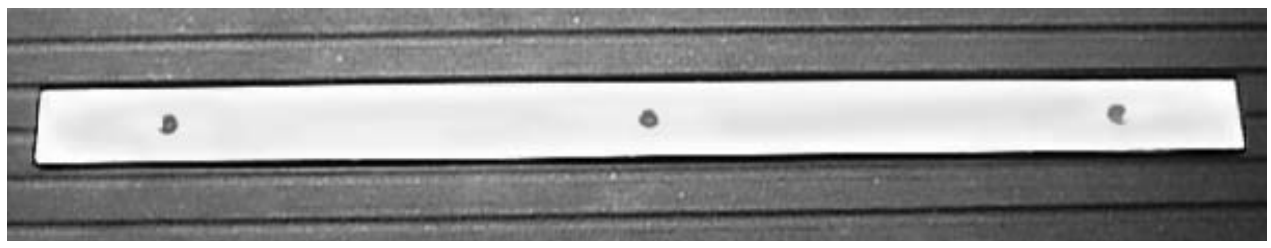
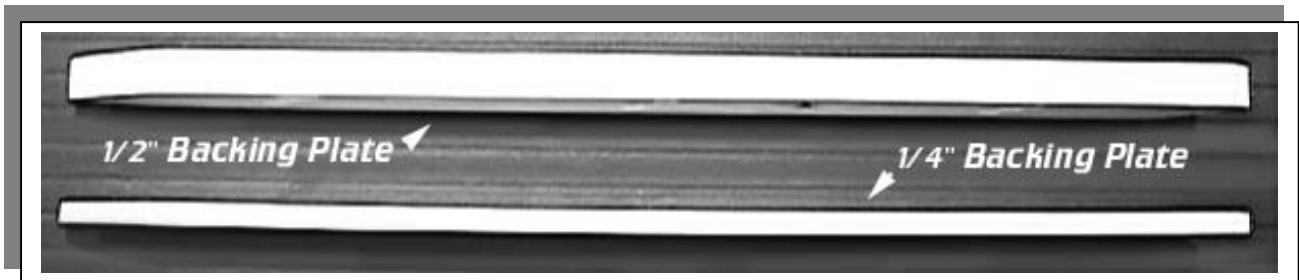

Figure 1
Figure 2
Note: There are two style backing plates (1/4" and 1/2" thick), Shown in Figure 2.
5. Secure one of the two supplied mounting plates (*Shown in Figure 1*), into position, (*inside hull area*) align with new holes drilled in hull and secure using *structural adhesive. Choose the correct side 1/4" or 1/2" backing plate (*Shown in Figure 2*) (*each size backing plate has a left and right side labeled on each plate.*), position desired holes in backing plate with correct side sponson and desired holes in sponson. With backing plate and sponson (with the rounded edge positioned forward) in position secure in place using three supplied wave washers and 1/4" x 20 screws. Torque screws to 5.8 ft-Lbs.. Repeat this procedure for the opposite side (*Shown in Figure 5*). **Tip:** Use duct tape to help hold backing plate in place when mounting into position. **Note:** Apply silicone to backing plate surfaces, around newly drilled holes and on screws to prevent leaks.